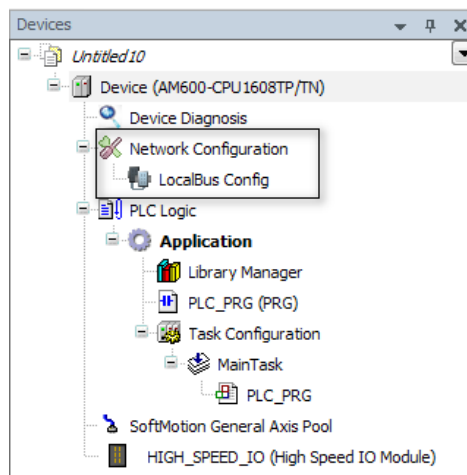

Figure 3-1 Network Configuration node
Double-click this node to open the **Network Configuration** interface and device list (as shown in Figure 3-1). The network configuration interface displays the PLC currently used by the user program, and the device list includes all the devices supported by PLC.
- 1) Enable the EtherCAT master station function, and then select a slave station node under the EtherCAT port node in Figure 3-1. Drag the node to the network configuration interface.
- 2) Enable the EtherCAT master station function, and then double-click a slave station node under the EtherCAT port node in Figure 3-1.